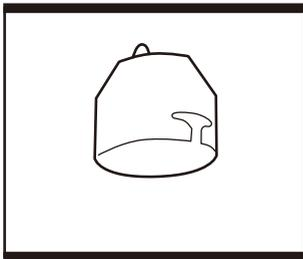

Fig. 3
1) Buse de concentration (Fig. 3)